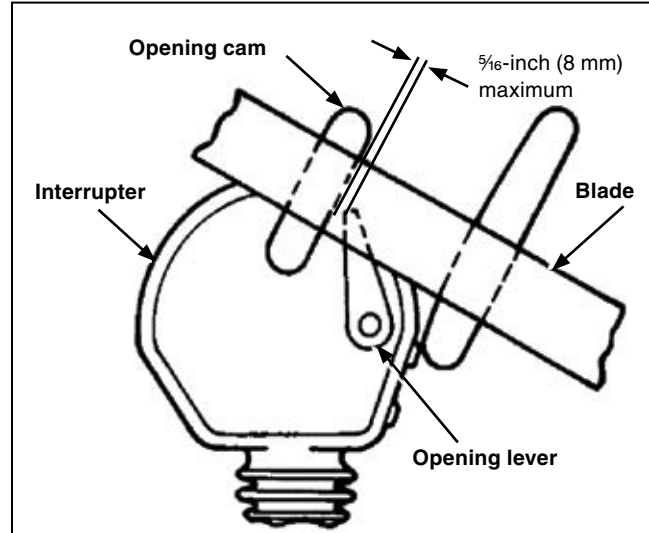

Figure 34. The blade assembly moving in the Closing direction.
- As the blade moves in the Closing direction, clearance between the blade-opening cam and the interrupter-opening lever must be within the limit shown. See Figure 34.